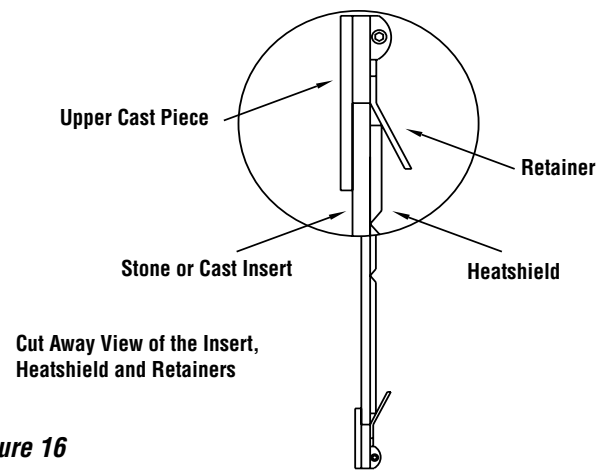

Figure 16
5. Put the cast iron upper piece A back in its original location while making sure that the upper retaining bracket D is to the inside of the heatshield pushing it up firmly against the cast or stone insert - Figure 16. Reinstall the 2 screws B.